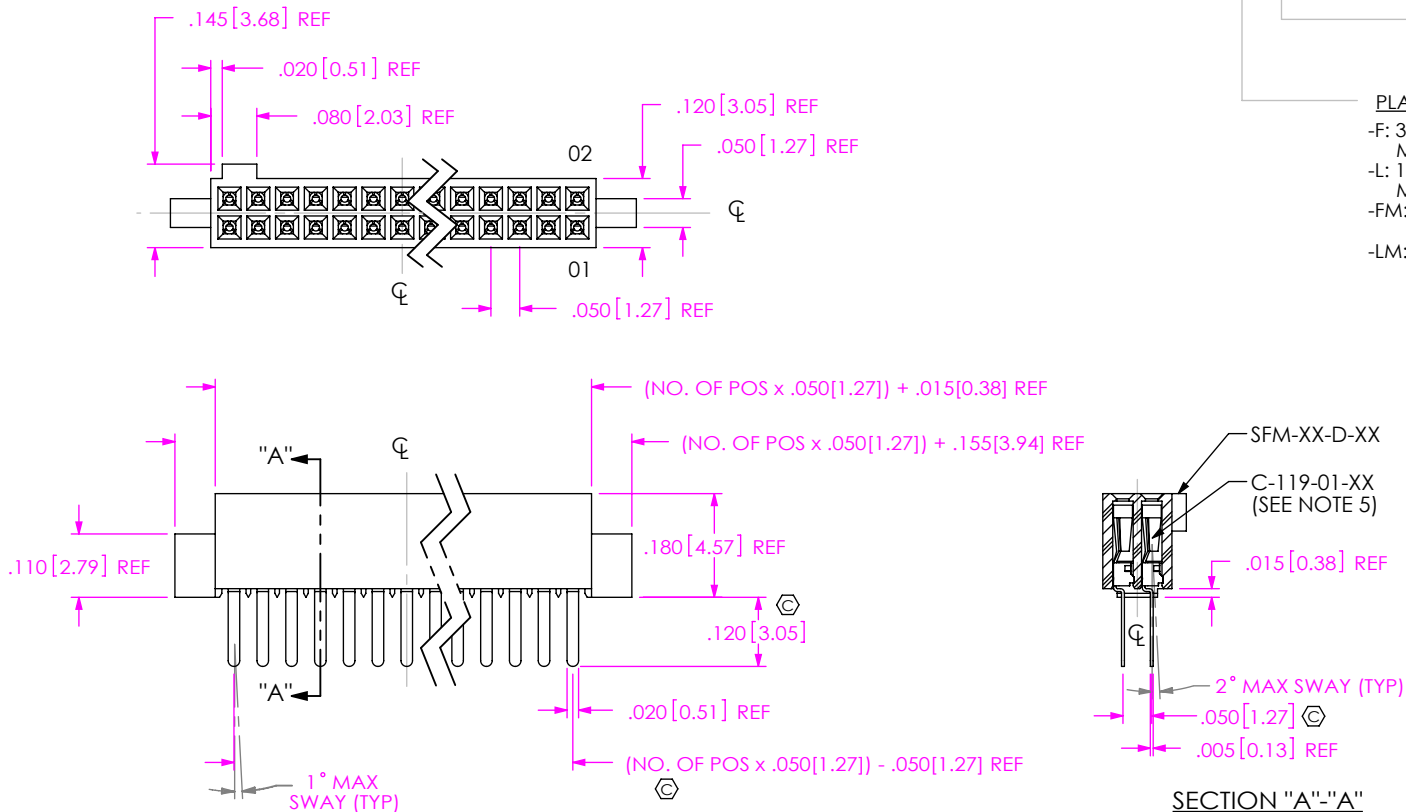

FIG 1
-T1: THROUGH HOLE (SEE FIG. 1, SHT. 1)
(SAME AS FIG 1, DIFFERENT AS SHOWN)